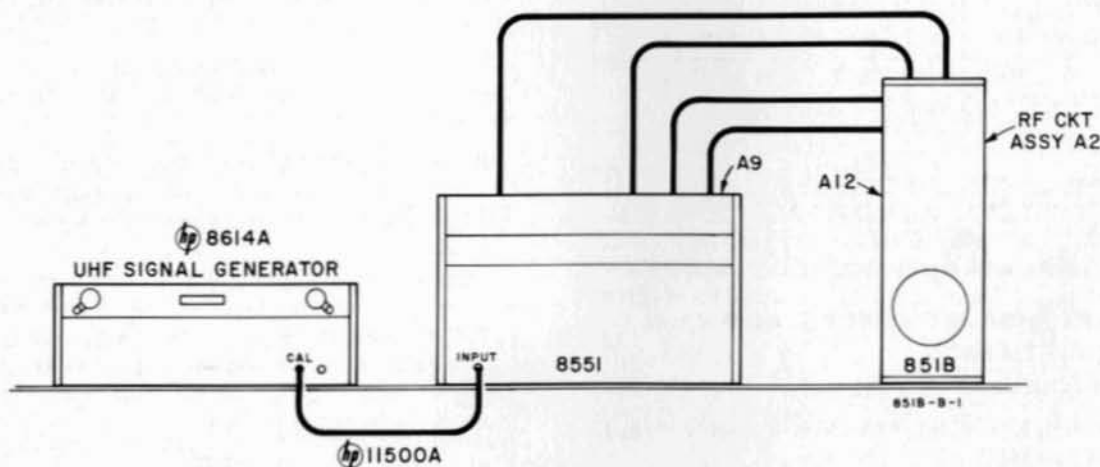

Figure 5-9. Measurement Setup, Final I. F. Bandwidth Adjustments
- a. Setup. Remove top and bottom covers from 851 and top cover from 8551; connect as indicated in Figure 5-9.
- (1) 8551:
- FREQUENCY (GC)01-2
5-129. ADJUSTMENT LOCATIONS. Location of Bandpass Filter Assembly A12 in top of 851 is shown in Figure 5-8, and that of Converter Assembly A9 in top of 8551 is indicated in Figure 5-9. Both assemblies are housed in castings, and each provides access to adjustments through holes in top cover plate.